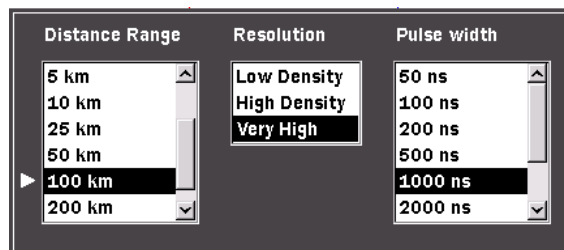

Figure 4-22: Range/Resolution/Pulse Width Dialog box
1. Press **Range/Pulse Width (f4)**, the Distance Range, Resolution, and Pulse width dialog box appears (see Figure 4-22 on page 4-69).